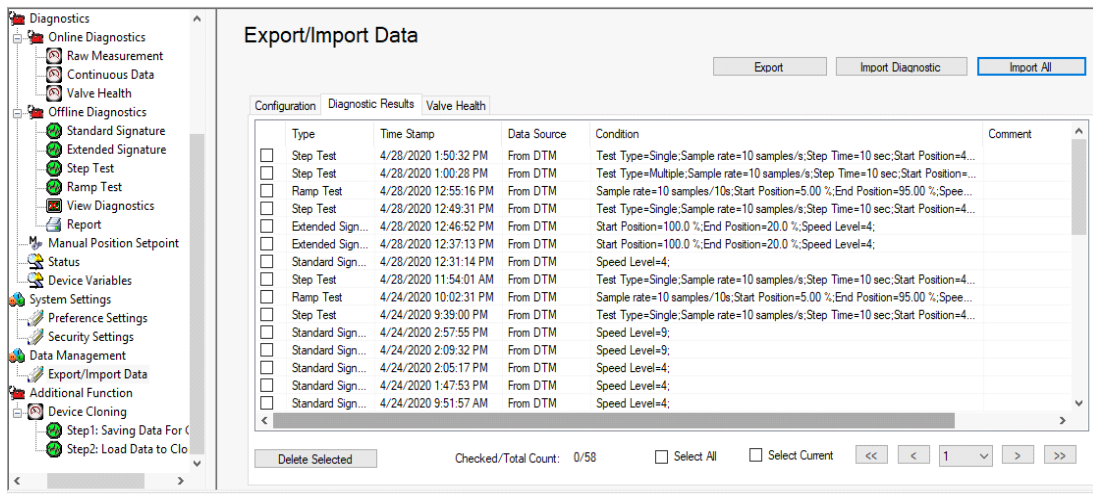

Figure 103 Diagnostic Results Imported
4. Click **OK** and Figure 103 appears with the items imported.